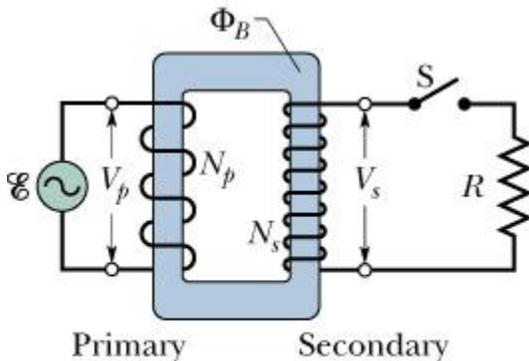

Fig. 1. A schematics of an ideal transformer. N_p and N_s are numbers of turns in the primary and secondary coils, respectively.
An iron-core transformer, Fig. 1, is an important device used in alternating current (AC) circuits, which involve these two discoveries. A transformer allows efficiently increase or decrease the line voltage. In its simplest form, the AC transformer consists of two coils of wire wound up around a core of iron as illustrated in Fig. 1.